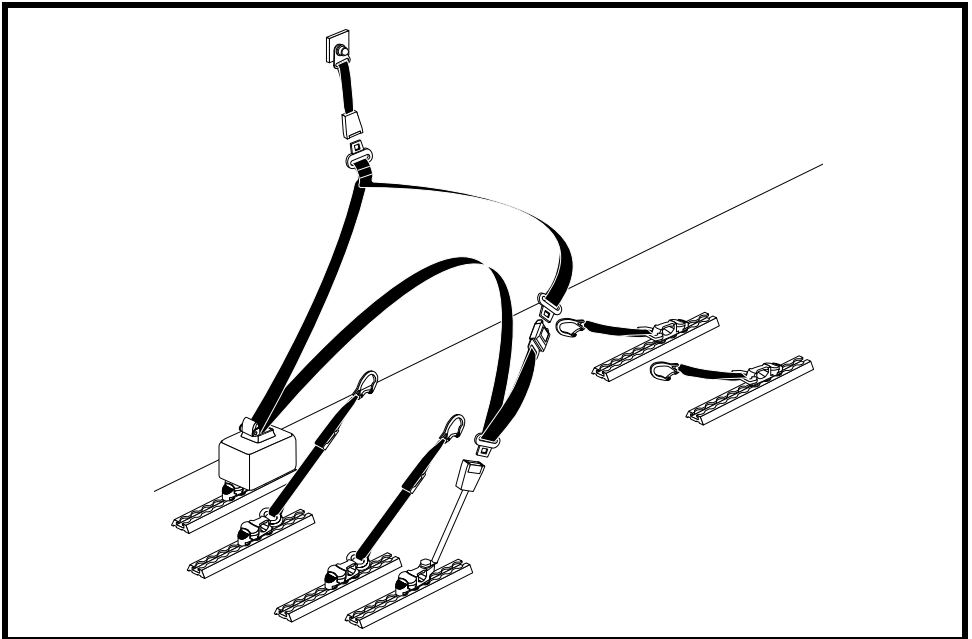

Figure 15. Vehicle-anchored Belt Restraint
- If your power chair is equipped with a crash-tested pelvic belt that is anchored to the vehicle, complete the restraint system by attaching the lower end of the WTORS upper-torso belt to the pelvic belt by referring to the WTORS manufacturer's instruction. Crash-tested vehicle-anchored pelvic belts will be labeled to indicate compliance to ISO 10542. See **figure 15**.